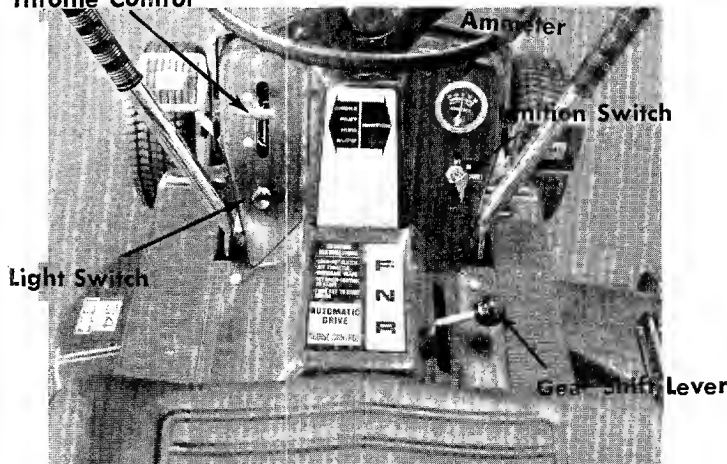

FIGURE 5. CONTROLS
- a. **Throttle Control.** The throttle control is used to regulate the engine speed and choke the engine. The engine should be operated from $\frac{3}{4}$ to full throttle when operating the cutting deck or snow thrower (optional). See figure 5.
- b. **Gear Shift Lever.** The gear shift lever is used to shift into FORWARD, NEUTRAL or REVERSE. See figures 5 and 6.
h. **Ammeter. (Electric Start Model Only.)** The ammeter registers the rate of battery charge or discharge. The ammeter should register on the plus side (+) when the engine is running in the fast position until the battery is completely charged. With a fully charged battery or with the engine idling the ammeter will not show a charge. See figure 5.
i. **Light Switch. (Electric Start Only.)** Pull the light switch out to turn on the lights. The lights will only operate when the engine is running. See figure 5.
Electric Start. See figure 5. Turn the key to the START position to start the engine. When the engine is running, let the key return to the ON position. To stop the engine, turn the key to the left to the OFF position and remove it to prevent accidental starting.
Step 4. Set the throttle control in the **CHOKE** position. See figure 5.